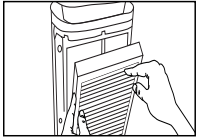

Fig. 7
3. Remove the True HEPA filters from the main unit. Fig. 7